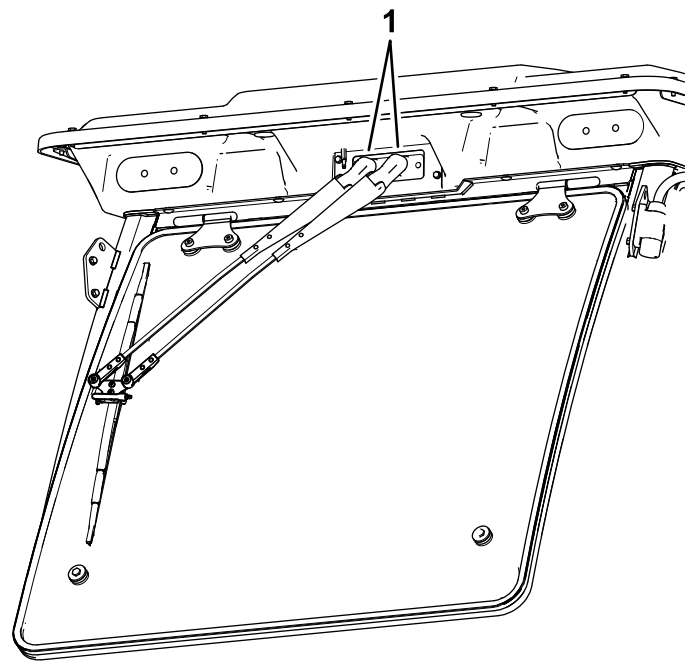

Figure 87
1. Open the caps at the top of the wiper arms (Figure 87).